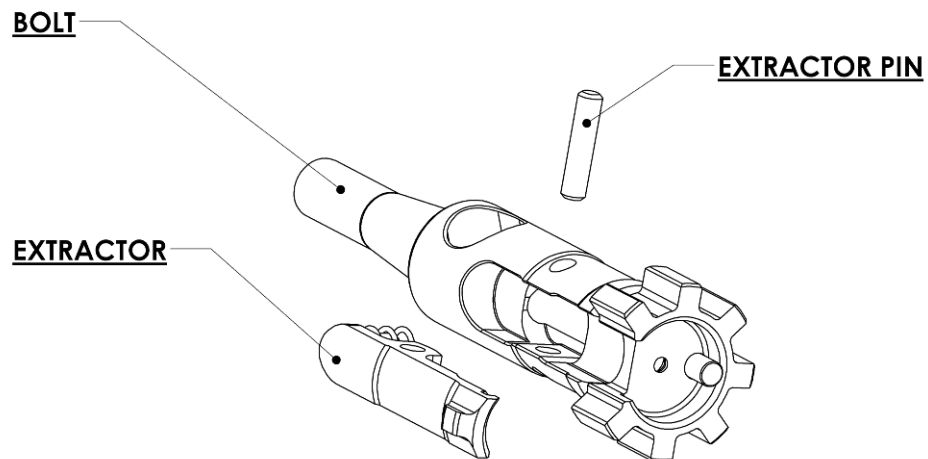

Figure 21-3
2. Remove the extractor and spring. (Figure 21-3).